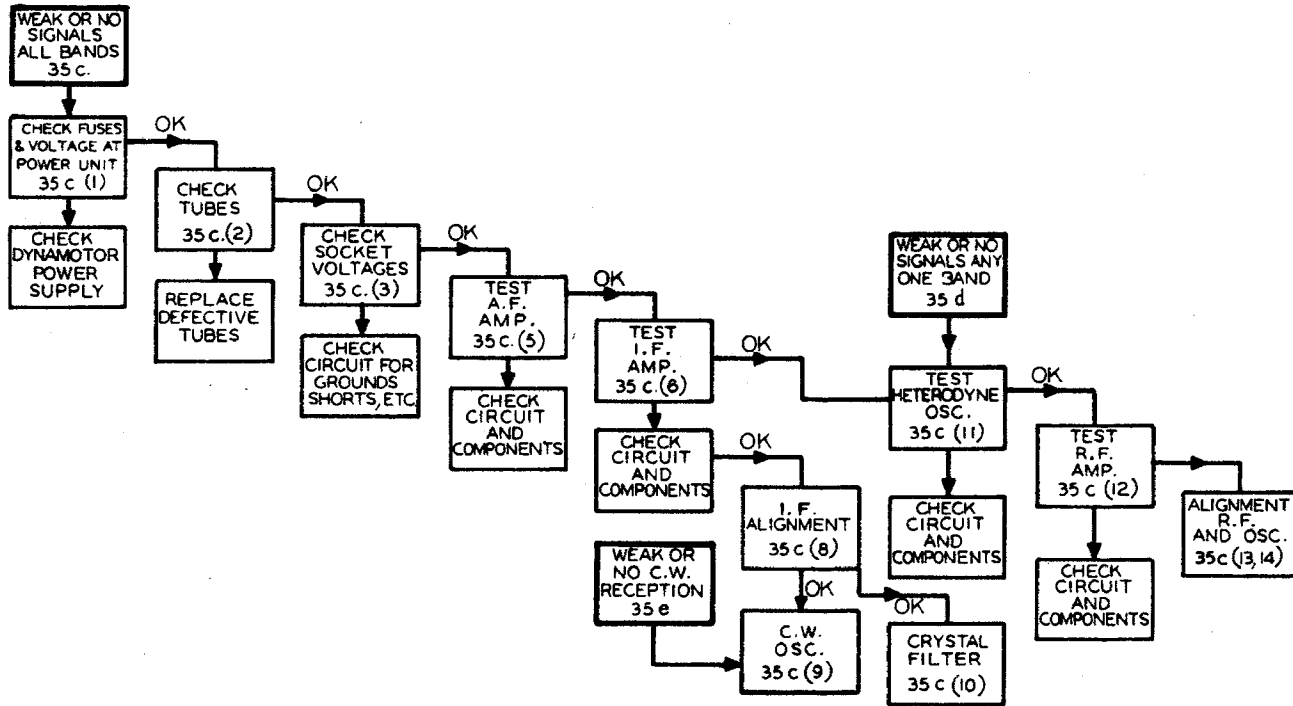
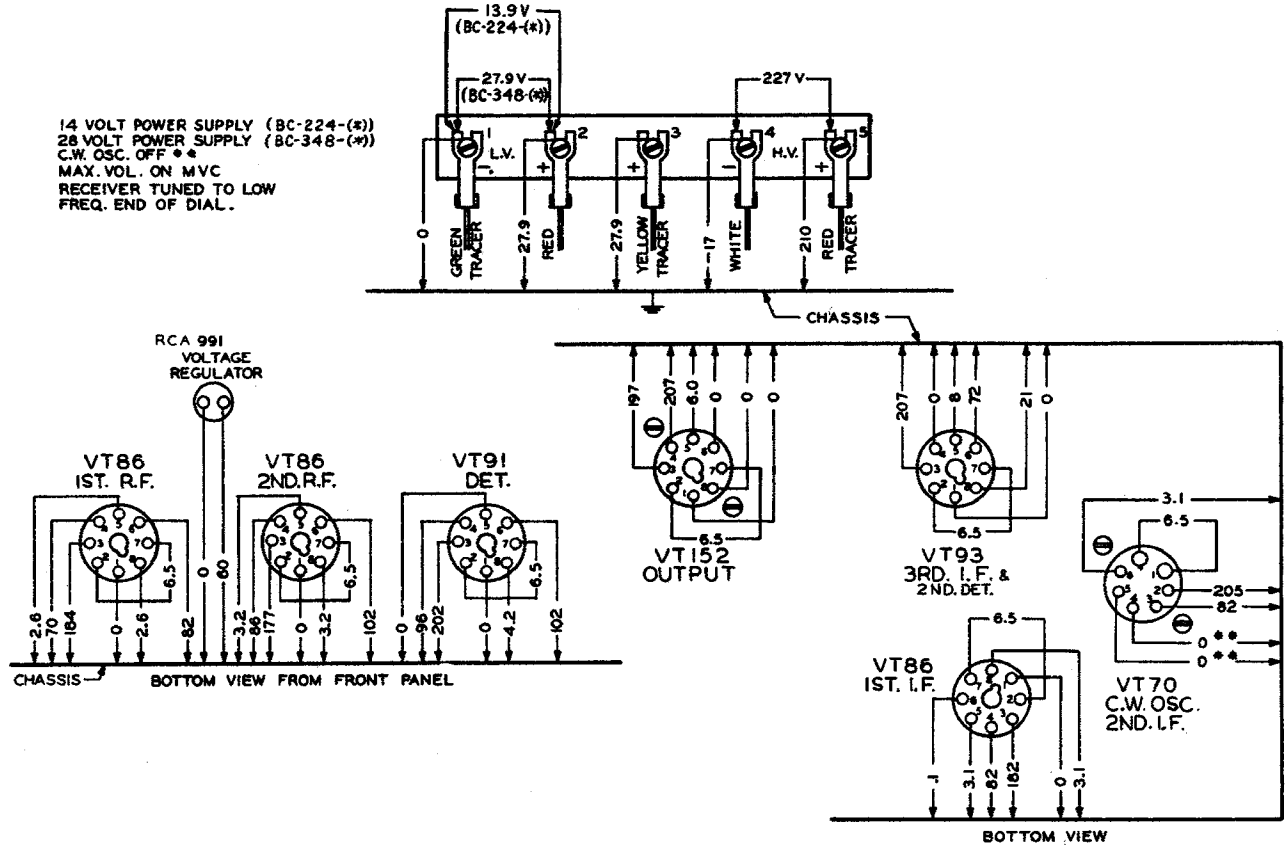

Figure 5-1. Trouble Location and Correction Diagram
Figure 5-2. Radio Receiver BC-348(*) or BC-224(*)—Dynamotor and Tube Socket Voltages
Figure 5-1 graphically outlines the procedure for trouble location, the numbers in each block referring to the paragraphs in this section.
(1) **CHECK OF DYNAMOTOR VOLTAGES.**—When all signals on all bands are weak or no signals are heard even when known to be present, the procedure follows that shown in Figure 5-1. The voltages checked at the dynamotor terminal board should closely approximate the values shown in Figure 5-2. Conditions for measurement are as follows: Input 28-volts for Radio Receiver BC-348-(*) or 14-volts for Radio Receiver BC-224-(*); "CRYSTAL" Switch Set to "OUT"; "AVC-OFF-MVC" Switch Set to "MVC"; "INCREASE VOL." control set to maximum; "C.W. OSC." Switch Set to "OFF." Load 4,000 ohms resistance (output transformer connected for HI output impedance). If these readings do not approximate the values shown, check the fuse as well as the dynamotor and filter circuits, wiring and components.
(3) **CHECK OF SOCKET VOLTAGES.**—If tubes check satisfactorily, or if, after replacing with tubes known to be good, the sensitivity is still low, check all tube socket voltages. The average socket voltages are given in Figure 5-2.
(4) **CHECK CIRCUIT WIRING AND COMPONENTS.**—If the tube socket voltages do not approximate the values shown in figure 5-2, check the associated circuits and components for grounds, shorts, and similar defects.